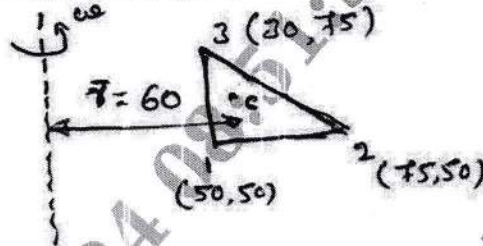

Fig.Q.9(a)
- 9 a. For the element of axisymmetric body rotating with constant angular velocity $W = 1000 \text{ rev/min}$ shown in Fig.Q.9(a). Determine the body force vector include weight of material, where specific density is 7850 kg/m^3 . (10 Marks)
- b. Evaluate nodal forces used to replace the linearly varying surface traction shown in Fig.Q.9(b). (10 Marks)